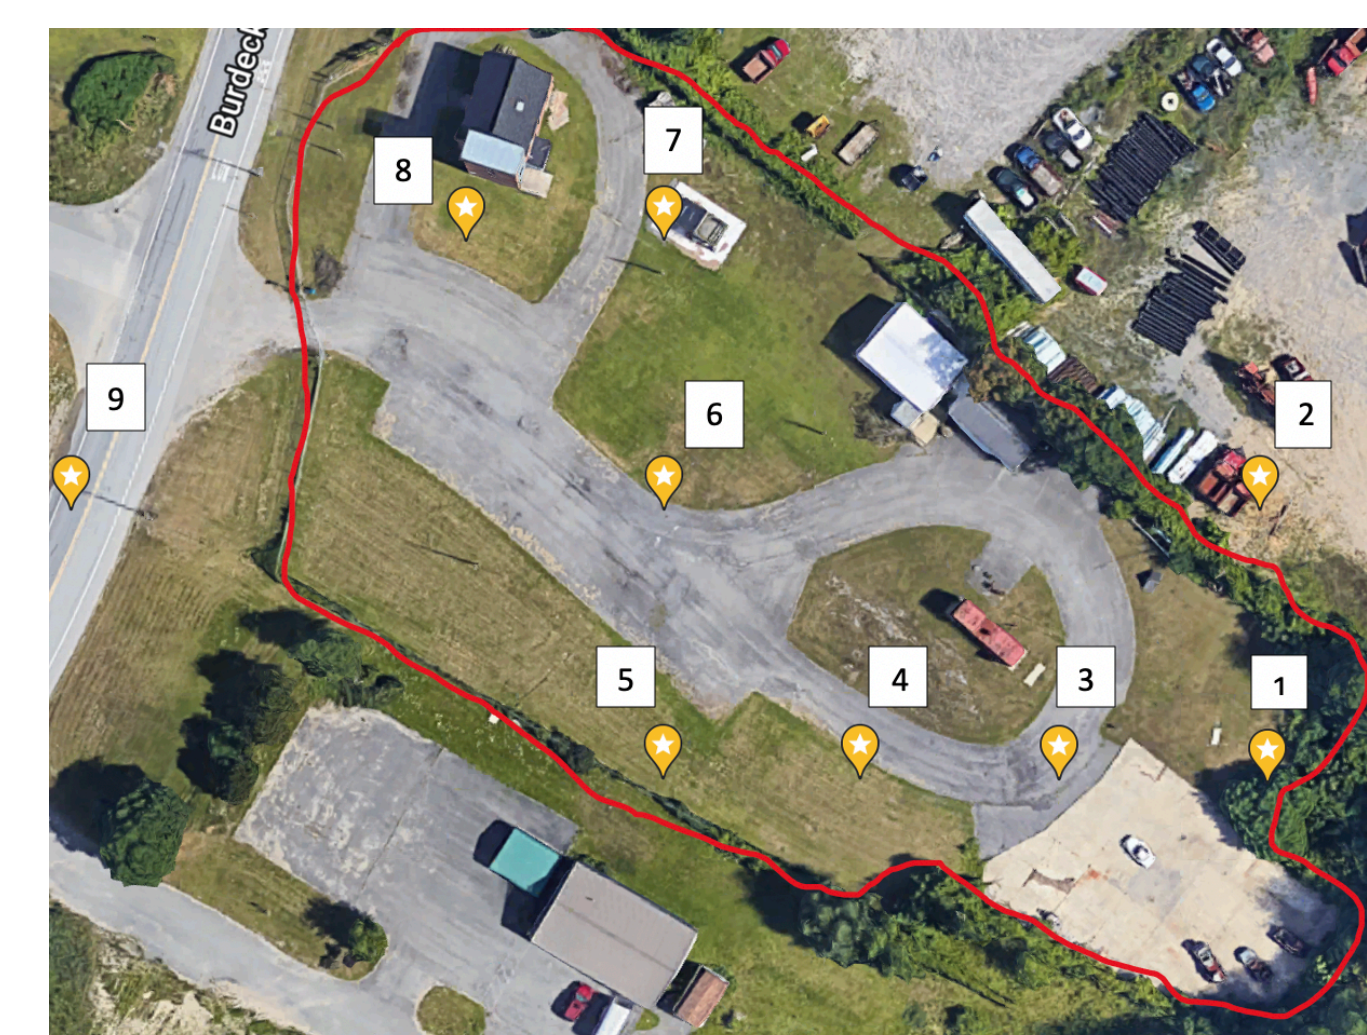

Figure 7: Map of collected samples area
- Wanted to confirm the presence of PFAS in firefighting foam sample obtained from Rotterdam Fire Facility, made targets of dried foam and cellulose binder, results of PIGE analysis shown in Figure 7.